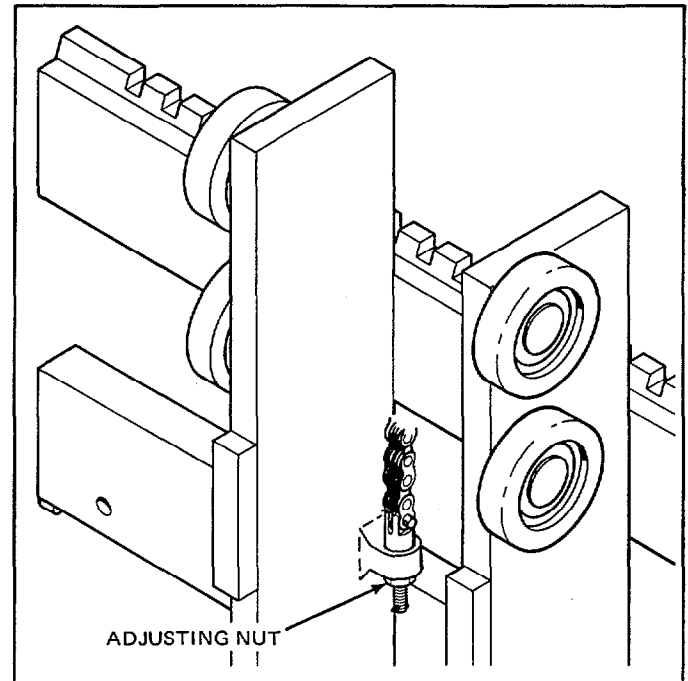

Figure 26. Carriage Chain Adjusting Nut
1. Locate the adjusting nuts on the carriage. See Figure 26.